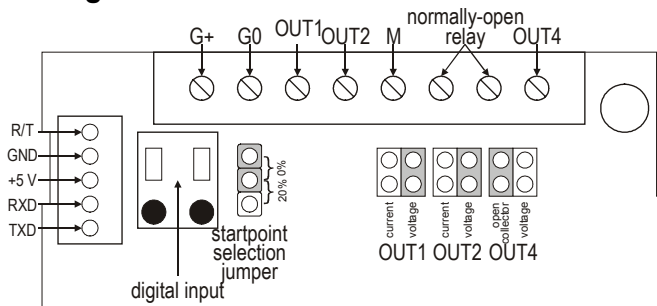

Fig. 5. Connections and jumpers on AQS51/61. The shaded positions represent the default settings
1. Connect the correct wires to the terminals and securely tighten each terminal screw. Follow the actual job wiring diagrams if available or refer to Table 2 for terminal designations. A sticker is located on the inside of the terminal cover that identifies the terminals (see Fig. 5). All wiring must comply with local electrical codes, ordinances and regulations.